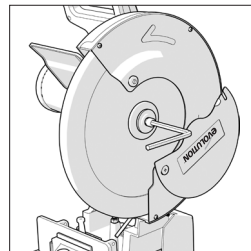

Fig. 4
- Use the supplied hex key to loosen the arbor screw. (Fig. 4)